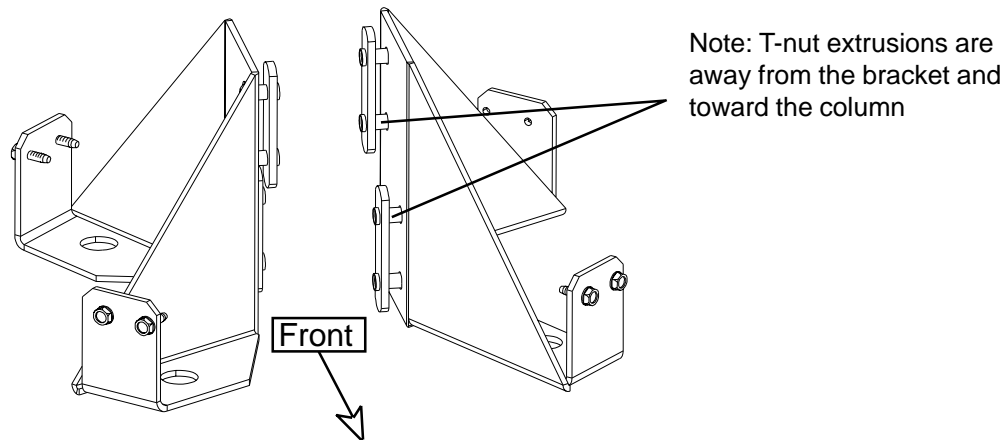

Figure 6
1. Loosely assemble two (2) T-nuts onto each of the two base support brackets. Note the location of nut extrusions, they should face away from the bracket. Refer to Figure 6 for orientation. Do not tighten screws at this time.
1. Place both column-base assemblies horizontally across 2 cardboard boxes or saw-horses for component assembly. Its important to note the orientation of the column. Refer to Figure 6 for detail. The brackets will be attached to the sides of the column. Mark or label the front of the column. Electrical or masking tape is ideal.